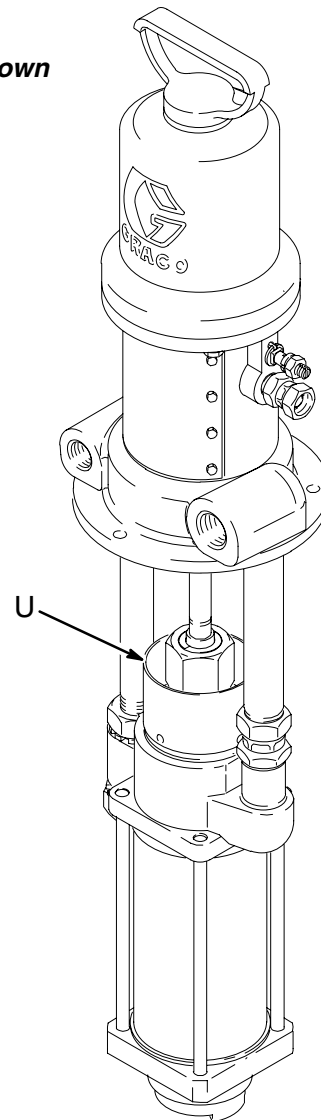

Fig. 3
Check the tightness of the packing nut/wet-cup (U) periodically. The nut should be tight enough to prevent leakage. Torque the nut to 20–24 ft-lb (27–33 N.m); do not overtighten or you may damage the packings. **Relieve pressure** before adjusting the nut. See Fig. 3.